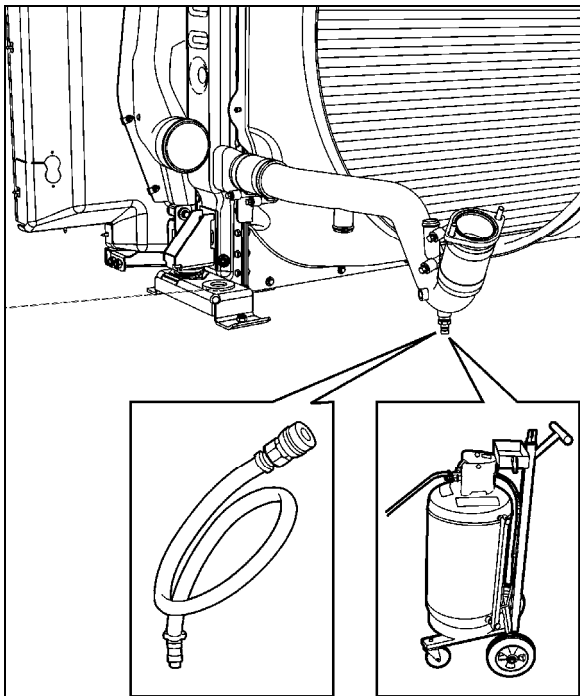

FIGURE 16: EXTRACTING COOLANT
- Connect coolant extractor (Figure 16). Use coolant extractor to drain the coolant from the engine. An alternate method is to drain the coolant into a suitable container using the drain hose.